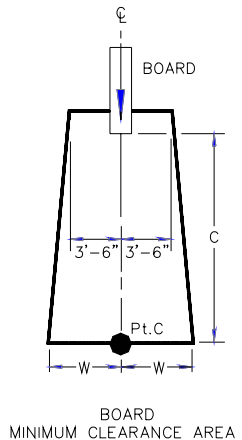

FIG. 4
- B. The minimum clearance area in front of a properly installed diving board on an inground swimming pool is a minimum distance of three feet six inches (3'-6") on either side of the board's centerline as shown in **FIG. 4**. Pt. C extends a minimum distance of "C" from the tip end of the board as shown in **FIG. 4**. The width distance "W" on either side of Pt. C is given in **CHART 1** and shown in **FIG. 4**.